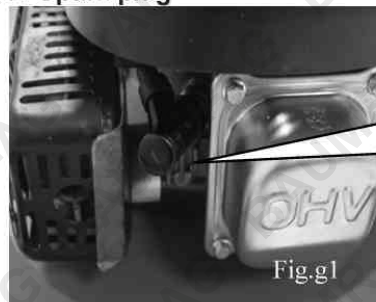

Fig.g1
The height handle goes to the front, the cutting height is more and more higher (Fig.g1).
- 1) Once the engine has cooled, remove the spark plug cap and get spark plug out using the socket spanner supplied (Fig.g1).